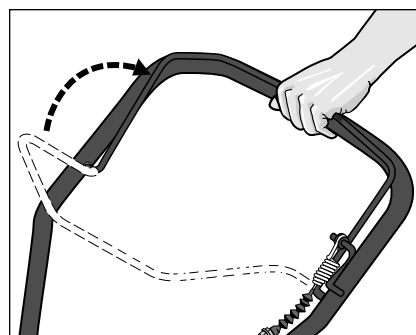

Figure 4-4
- C. When the engine is running, pull and hold the control bail up against the handlebar (Figure 4-4) to activate the trimmer head.